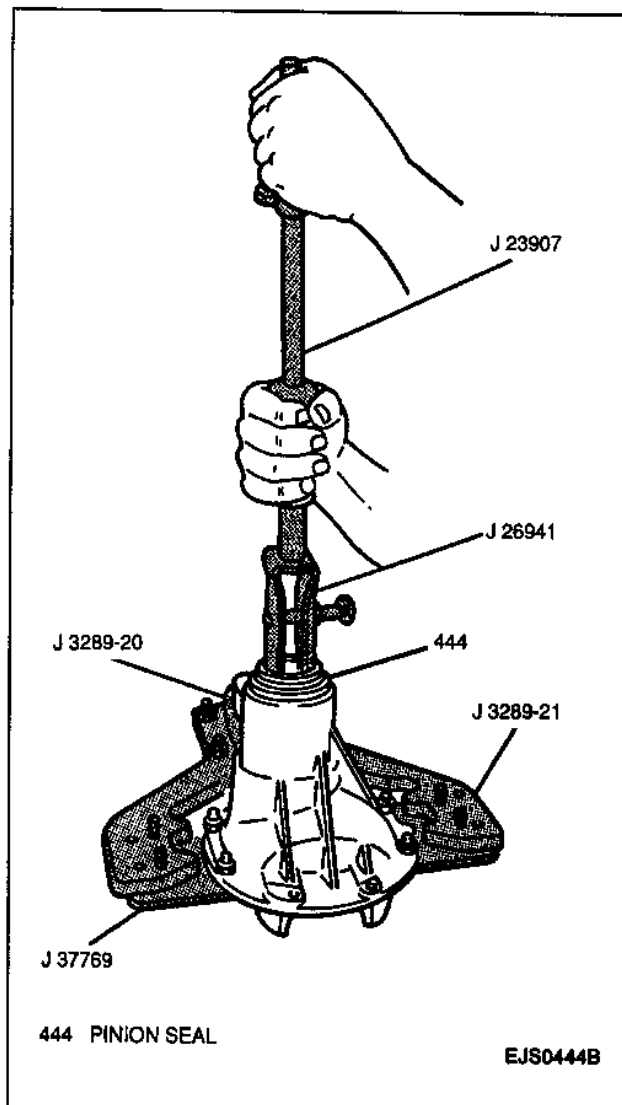

Figure 44—Removing Pinion Seal
13. Pinion seal from differential carrier using a J 26941 with a J 23907 (Figure 44).